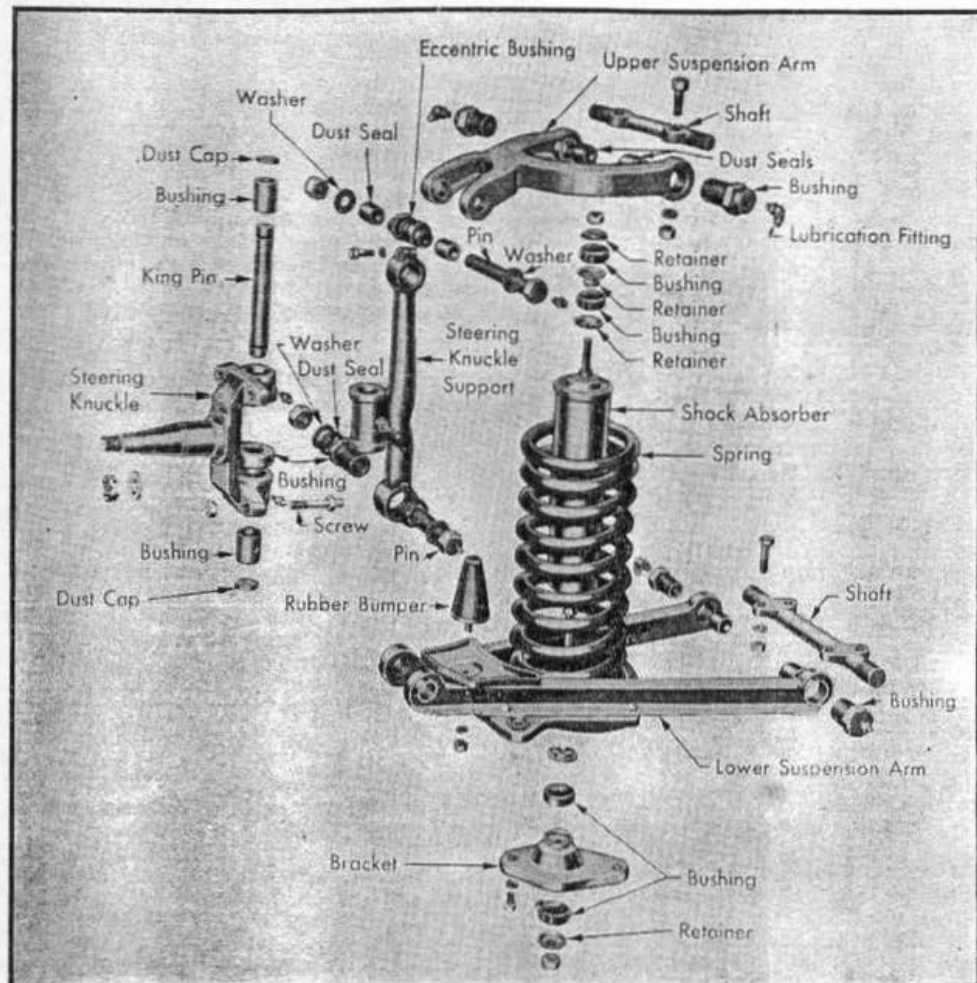

Fig. 36 Front suspension, 1950-54
4. Drive lock pin from steering knuckle support, Fig. 36.